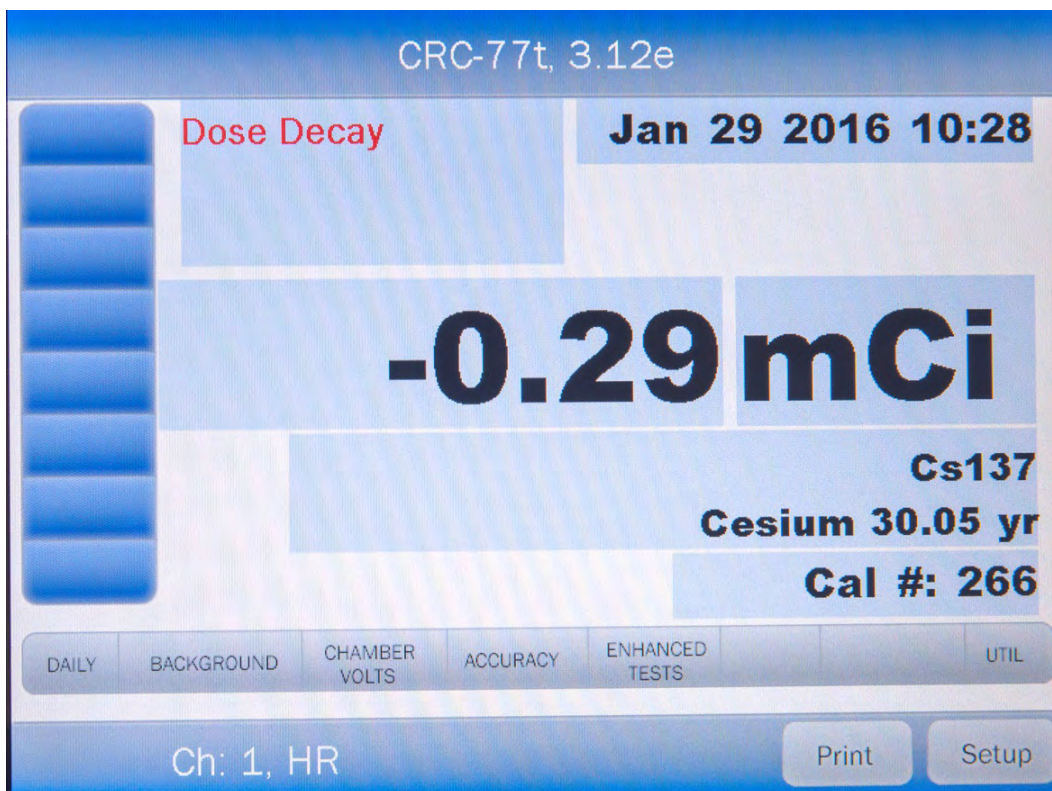

Figure 13-1 Measurement Screen
From Figure 13-1 Measurement Screen, touch the **UTIL** button. Figure 13-2 Utility Screen will appear.
- touch the **HOME** button – Figure 13-1 Measurement Screen will appear.